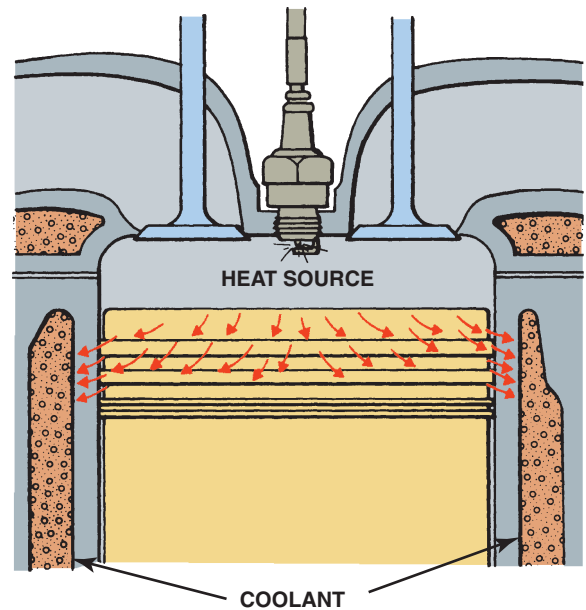

FIGURE 29-16 The rings conduct heat from the piston to the cylinder wall.
- The rings transfer some of the piston heat to the cylinder wall, where it is removed from the engine through the cooling system. ● **SEE FIGURE 29-16.**